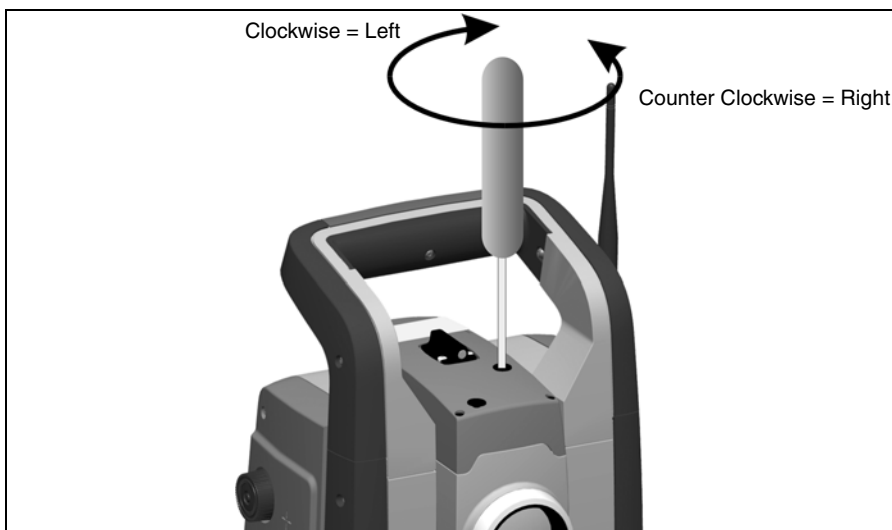

Figure 4.38 Horizontal position adjustment
3. To correct the horizontal position of the laser spot, insert the allen key into the horizontal adjustment port and turn it as shown in Figure 4.38.